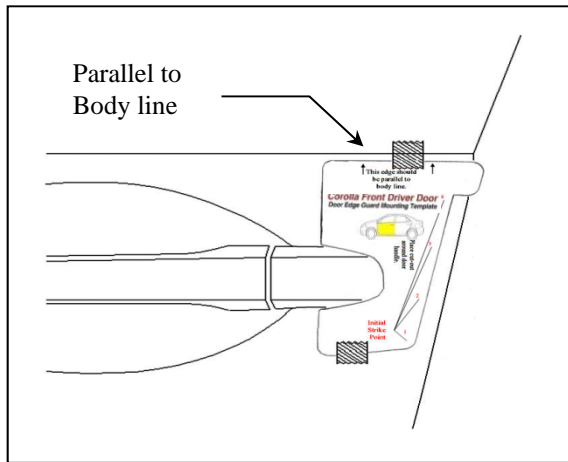

Fig. 2-3
(1) Select the front door template and fit the notch around the door handle. Adjust it as needed to ensure it is parallel to the body line directly above the template. If needed, tape it into place using painter's masking tape (Fig 2-3).